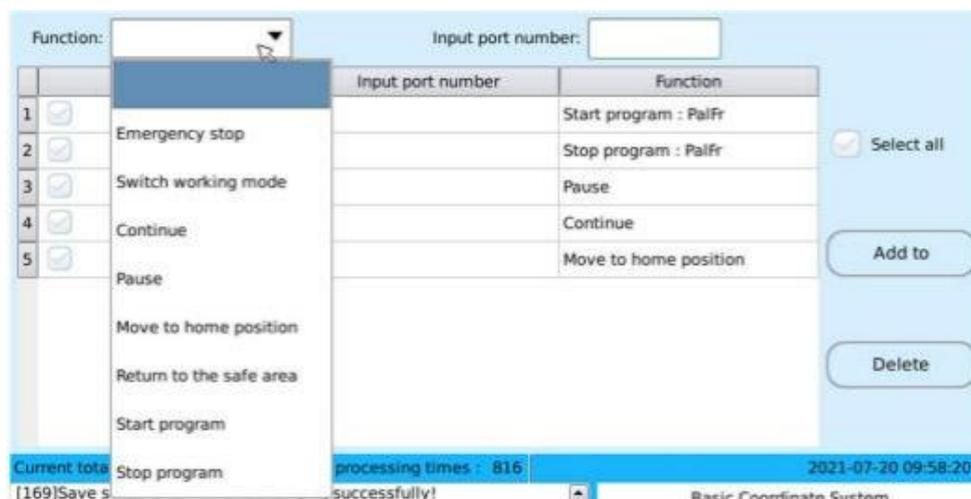

Figure 5.21 Port configuration
Step 4: select [port configuration], the system provides 8 special functions. Enter the port according to the physical keys installed in the control box, and configure the special function, as shown in Figure 5.21.